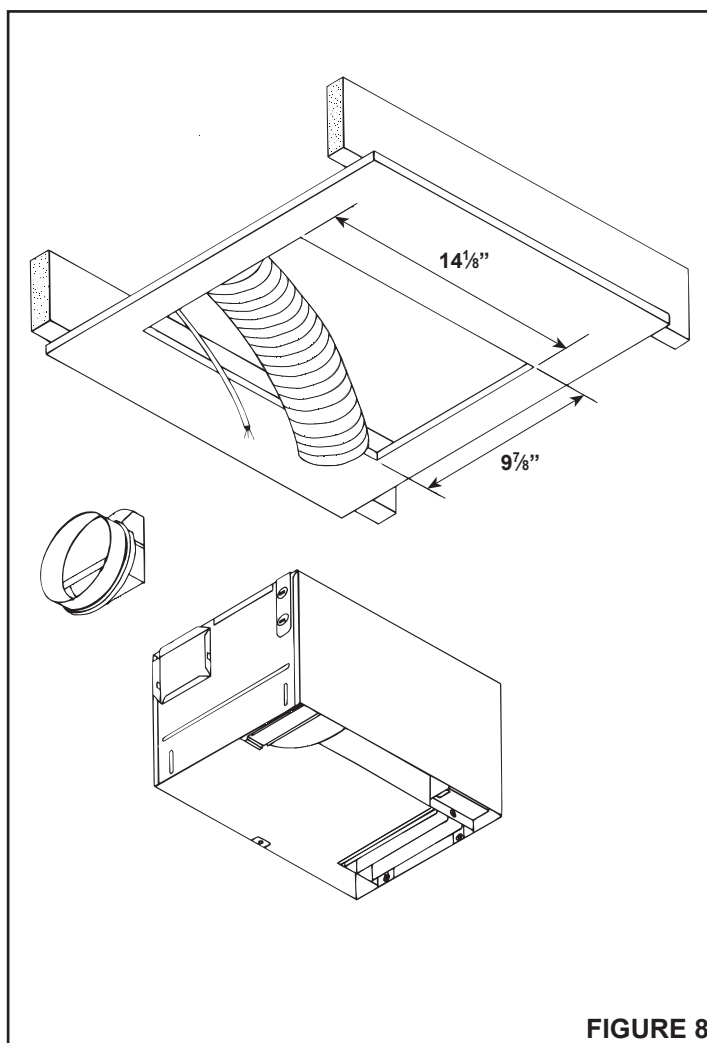

FIGURE 8
2. **Refer to Figure 8.** Mark ceiling for cutout.